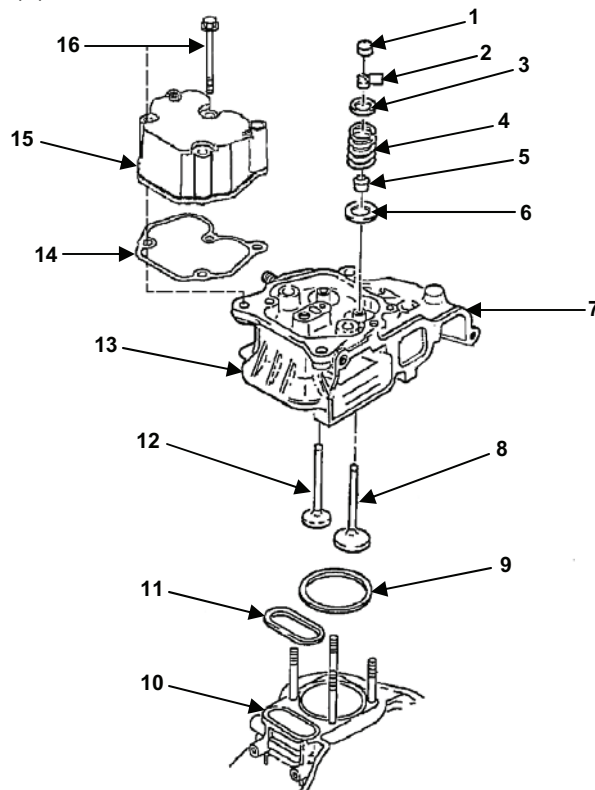

Figure 1. Cylinder Head Assembly.
1. Remove valve cover (Figure 1, item 15), gasket (Figure 1, item 14) and three (3) bolts (Figure 1, item 16).
3. Store the wear caps (1).
4. Discard Head gasket (Figure 1, item 9) and O-ring (Figure 1, item 11).
5. Slide intake valve (Figure 1, item 8) and exhaust valve (Figure 1, item 12) out of the cylinder head. Do not mix them.
6. Remove cotter assembly (Figure 1, item 2) from the intake valve.
7. Compress spring (Figure 1, item 4) using spring compressing tool and carefully remove spring retainer (Figure 1, item 11).
8. Carefully remove the spring (Figure 1, item 4).
9. Remove stem seal (Figure 1, item 5) and washer (Figure 1, item 6).